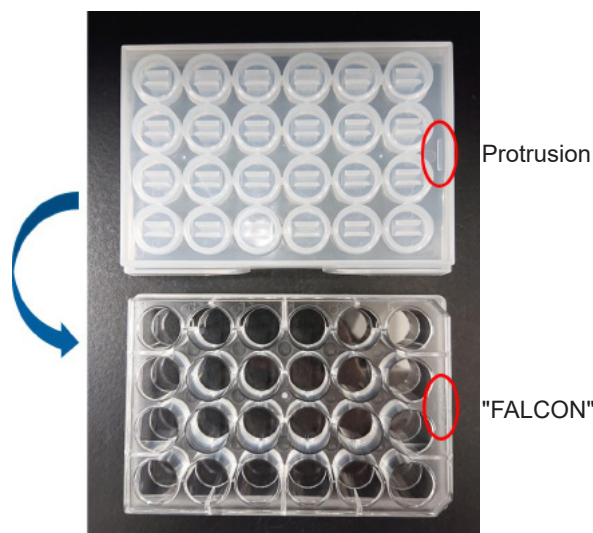

Figure 1 How to cover TestPiece Holder and 24-well plate
- The TestPiece Holder has a proper orientation. Please make sure the protrusion of the TestPiece Holder is above the "FALCON" carved seal as shown in Figure 1.